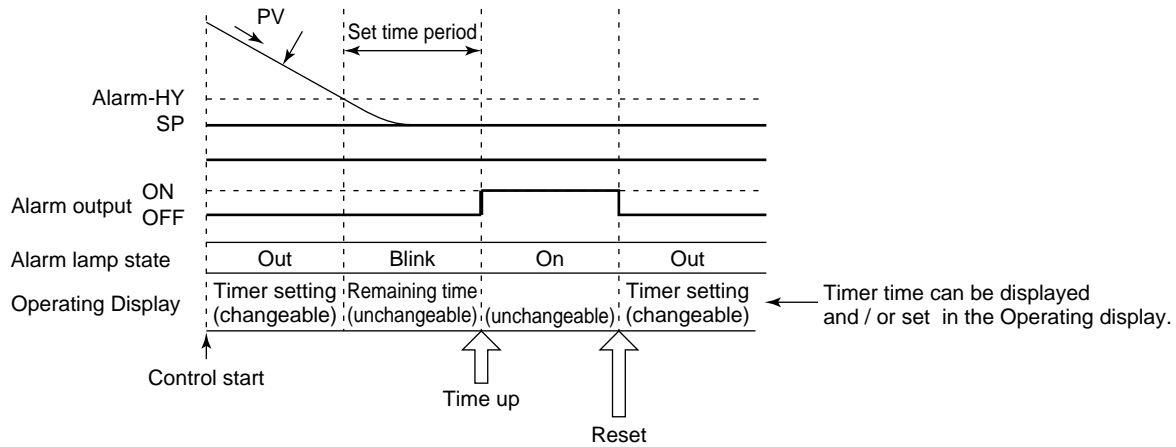

Fig. 3-3-4 Downward Detection
(2) The ON/OFF operation in downward detection is shown below (in Fig. 3-3-4).